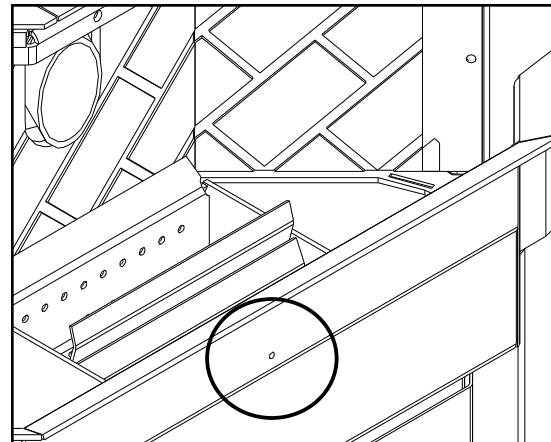

Figure 41: Hole for Pressure test with Magnehelic Gauge
For troubleshooting purposes the firebox vacuum pressure may need to be confirmed. This should be done only on a hot stove (operating for thirty (30) minutes or more) by placing a Magnehelic Pressure Gauge in the firebox. The reading can be taken from the 1/8" (3 mm) hole located in the front of the firebox under the door (see Figure 41). **The factory setting should read approximately 0.065 inches of water column on the high fire setting.**